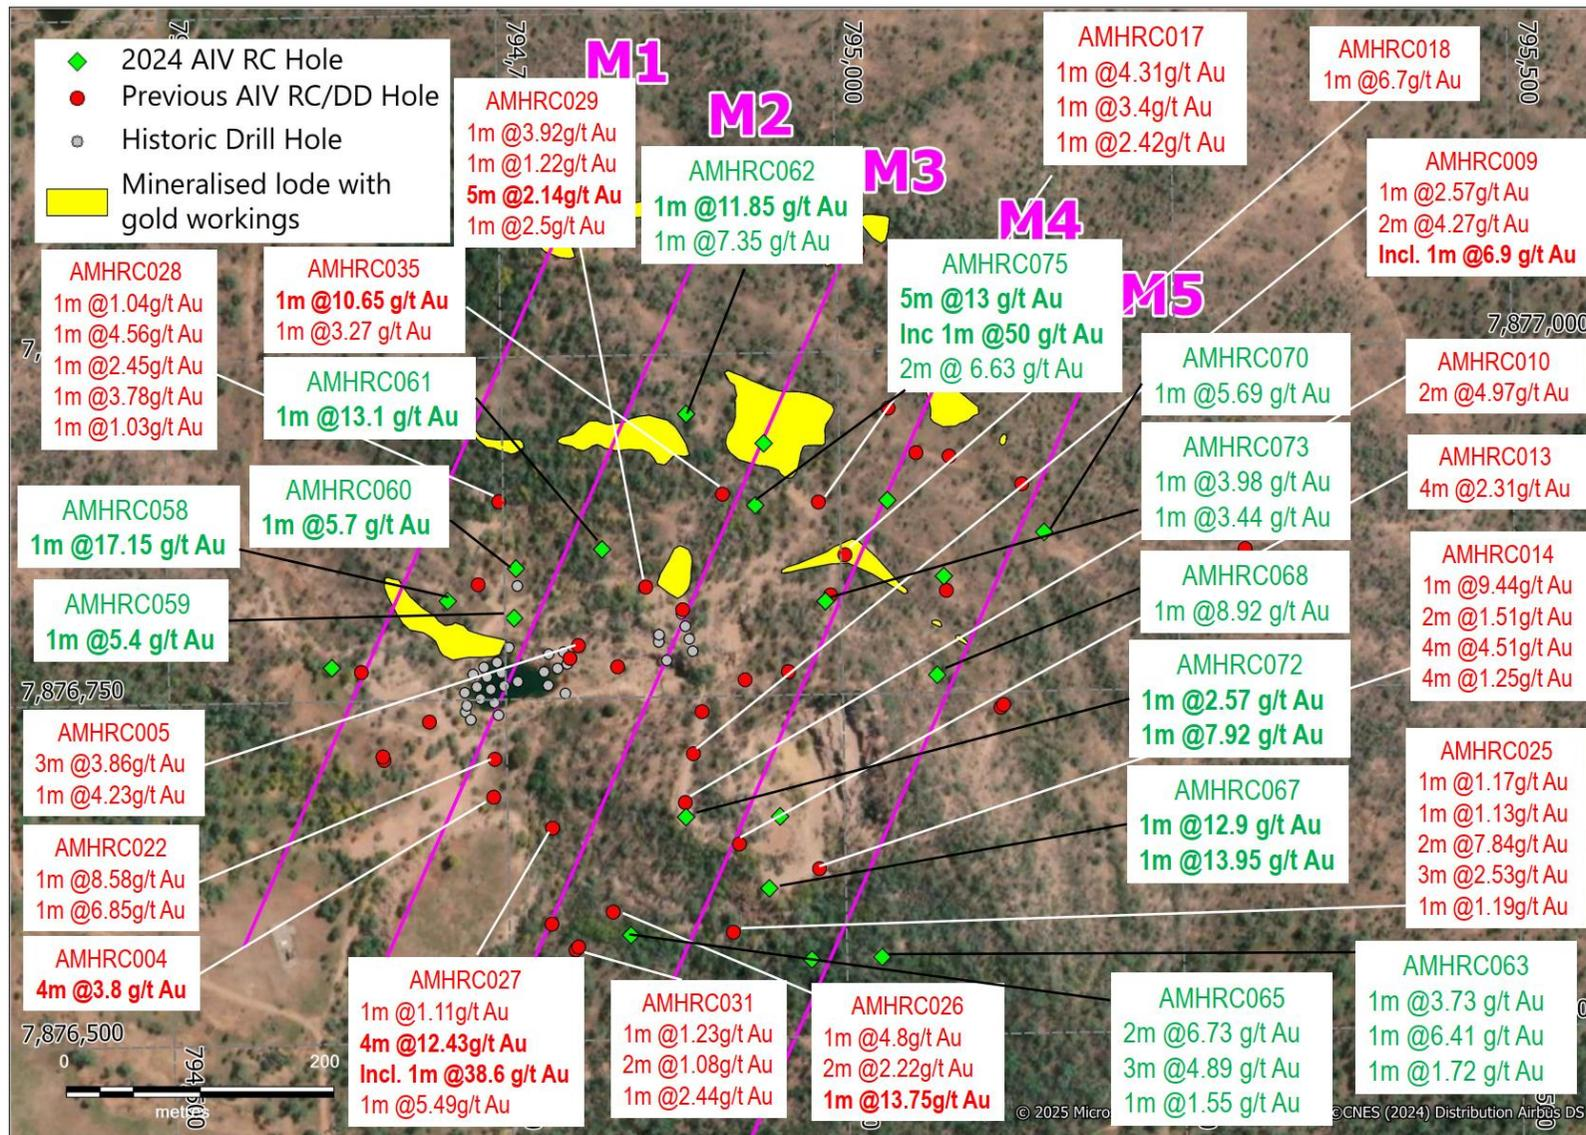

Figure 3 Mt Hogan Drilling Plan View.
- Exceptional high-grade gold intercepts were confirmed across multiple zones (Figure 3).